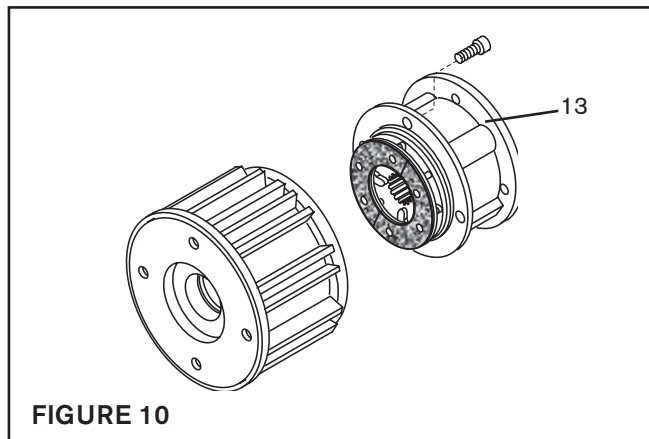

FIGURE 10
1. Remove the four Socket Head Cap Screws (Item 13) and separate the two halves of the FMCBE (See Figure 10).
13. Apply a drop of Loctite® 242 to the threads of the four Socket Head Cap Screws (Item 13) and secure the two halves of the FMCBE together (See Figure 10).
14. Tighten the four Socket Head Cap Screws (Item 13) to 10.5 Ft. Lbs. [14.2 Nm] torque (See Figure 10).